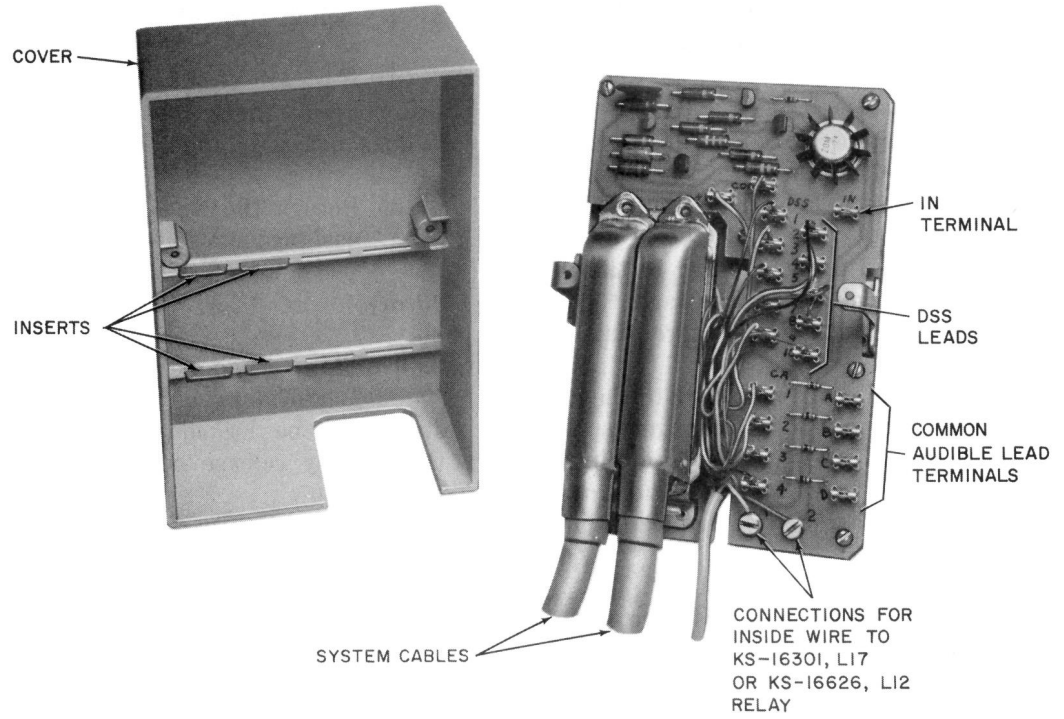

Fig. 31—25A Apparatus Unit
3.44 Install a 25A apparatus unit (Fig. 31) and an auxiliary signal as follows: